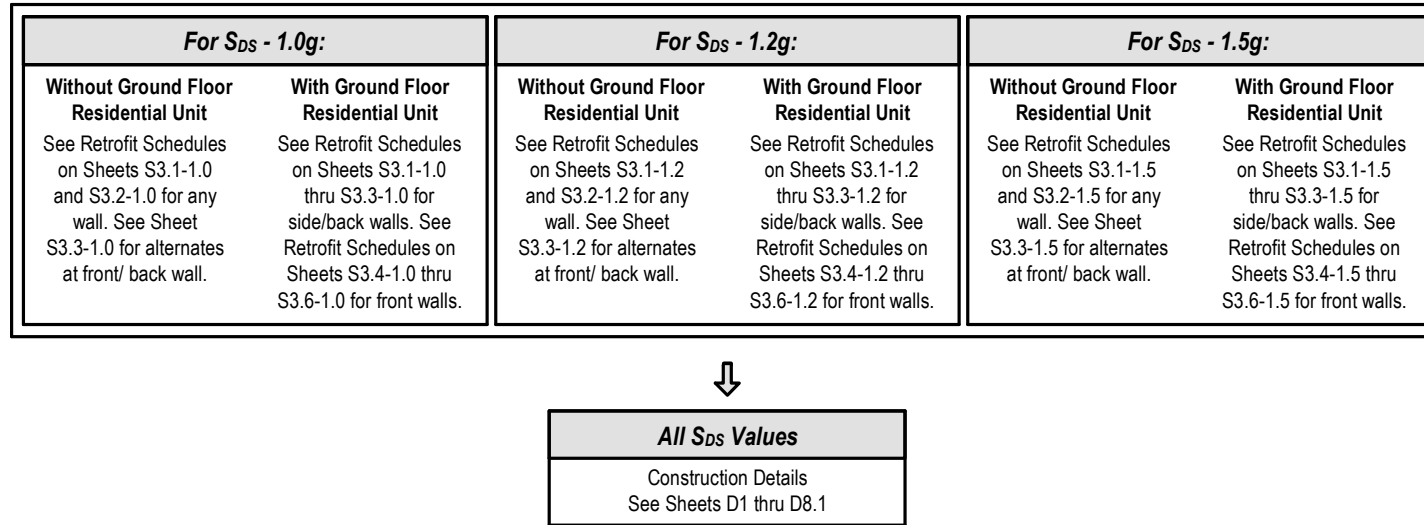

Figure 1. Earthquake Retrofit Schedules per S_{DS}
- Find the corresponding S_{DS} value and building retrofit/configuration type in Figure 1. You will use one or more of the Earthquake Retrofit Schedules identified in Figure 1. Do not submit any of the unused sheets to the Building Official.